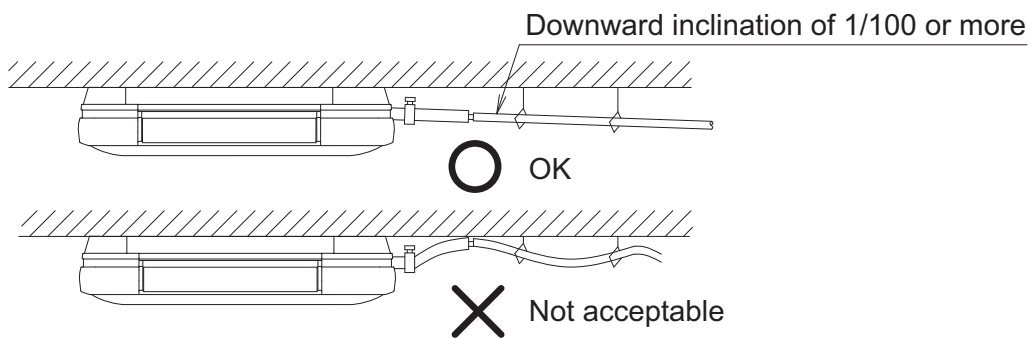

Fig. 28
- Install piping as short as possible with downward inclination of 1/100 or more and without where air may stagnate. **(Refer to Fig. 28)**